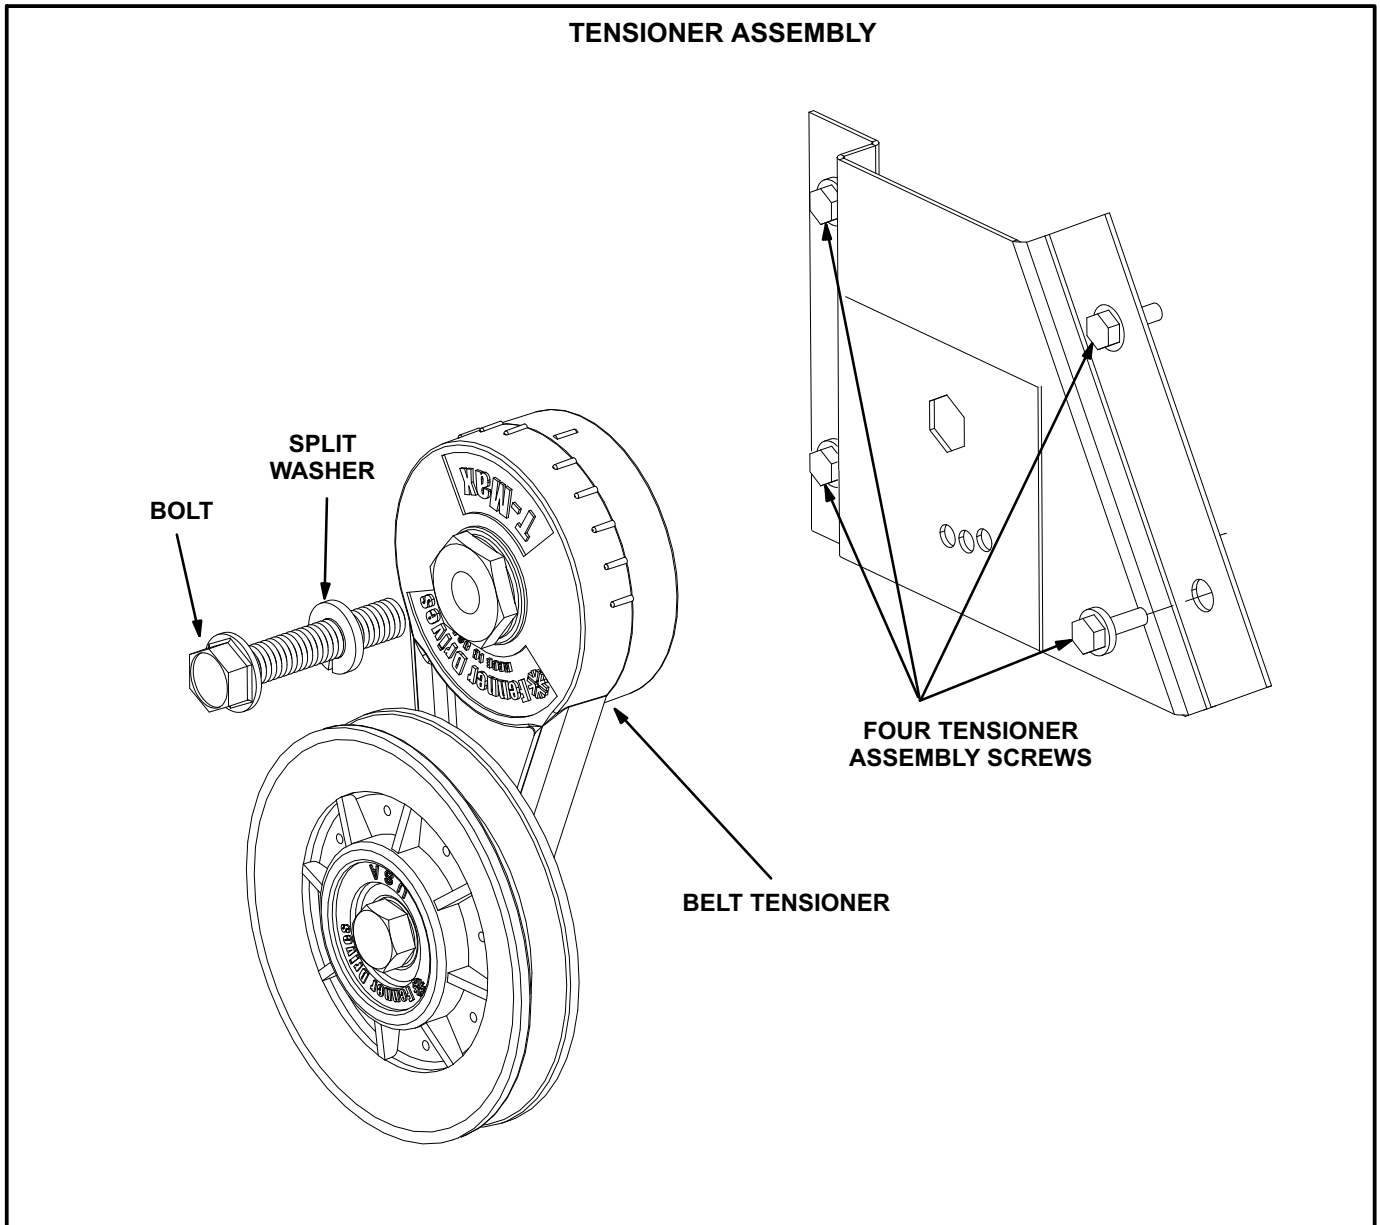

FIGURE 2
- 2- Remove and retain four screws that secure the belt tensioner assembly to the blower housing. See figure 2.